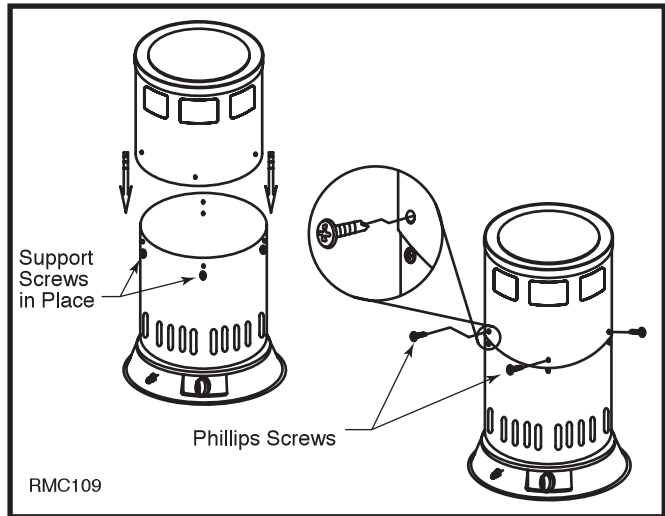

Fig. 4 Attach top with four phillips screws. Install control knob.
6. Place shell upper assembly onto shell lower. Secure with four phillips screws in top hole of shell lower. (Fig. 4)
7. Attach knob to gas valve stem. (Fig. 4)